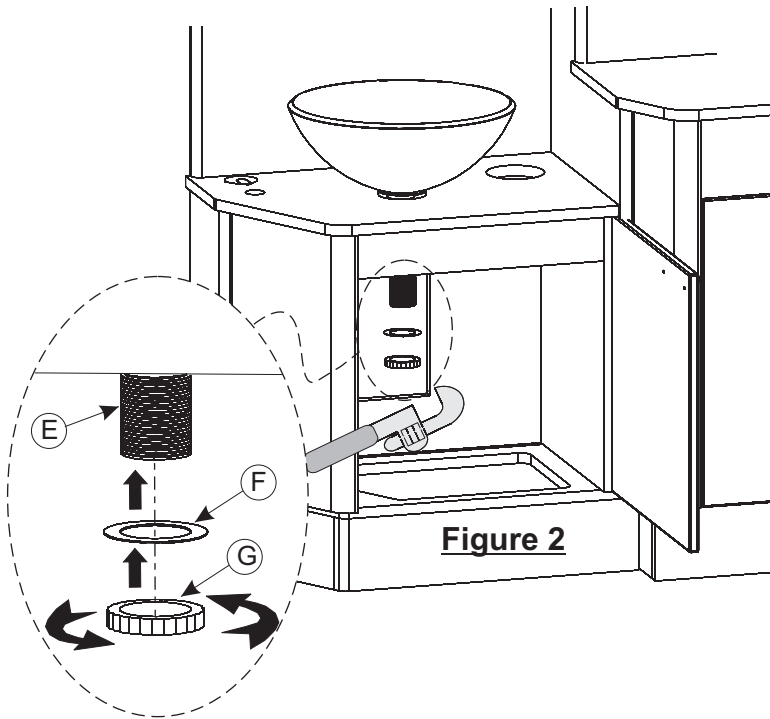

Figure 2
Connect Drain Assembly Nut (G) to Drain Assembly (E) along with the Small Plastic Washer (F) and hand tighten to check for alignment then use pipe wrench to complete tightening (see Figure 2). CAUTION: DO NOT OVERTIGHTEN